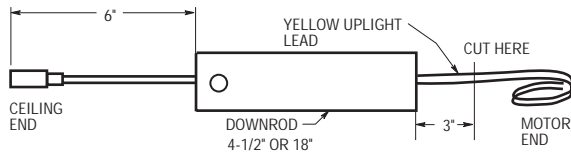

Figure 2B
3. Push the yellow upright lead connector through the downrod (Figure 2B) until it extends about 6".
4. Cut the yellow lead approximately 3" from the end of the downrod (Figure 2B). Strip insulation 1/2" from end of wire.